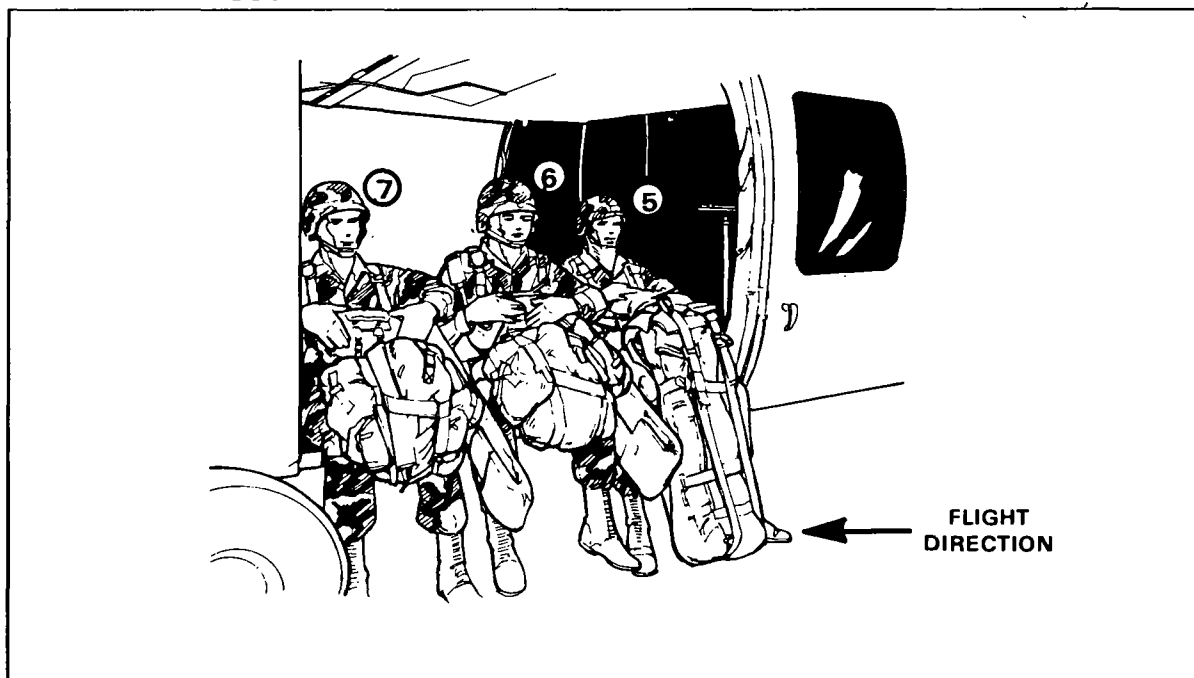

Figure 12-13. Parachutists (left door) with safety belt secured.
- (2) Nos. 5 and 7 pass the running ends of their safety belt to No. 6 who fastens the belt and removes excess slack (Figure 12-13).